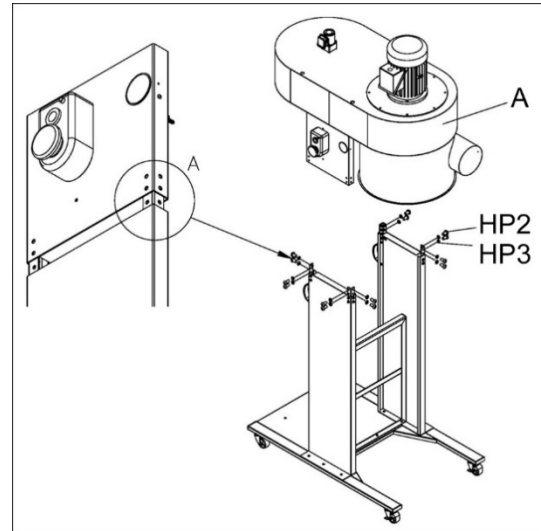

Figure 5-4
6. Lower main housing (A, Figure 5-4) onto angle supports and down onto stand panels. Secure with button head screws and washers (HP2/3). Tighten all securely.